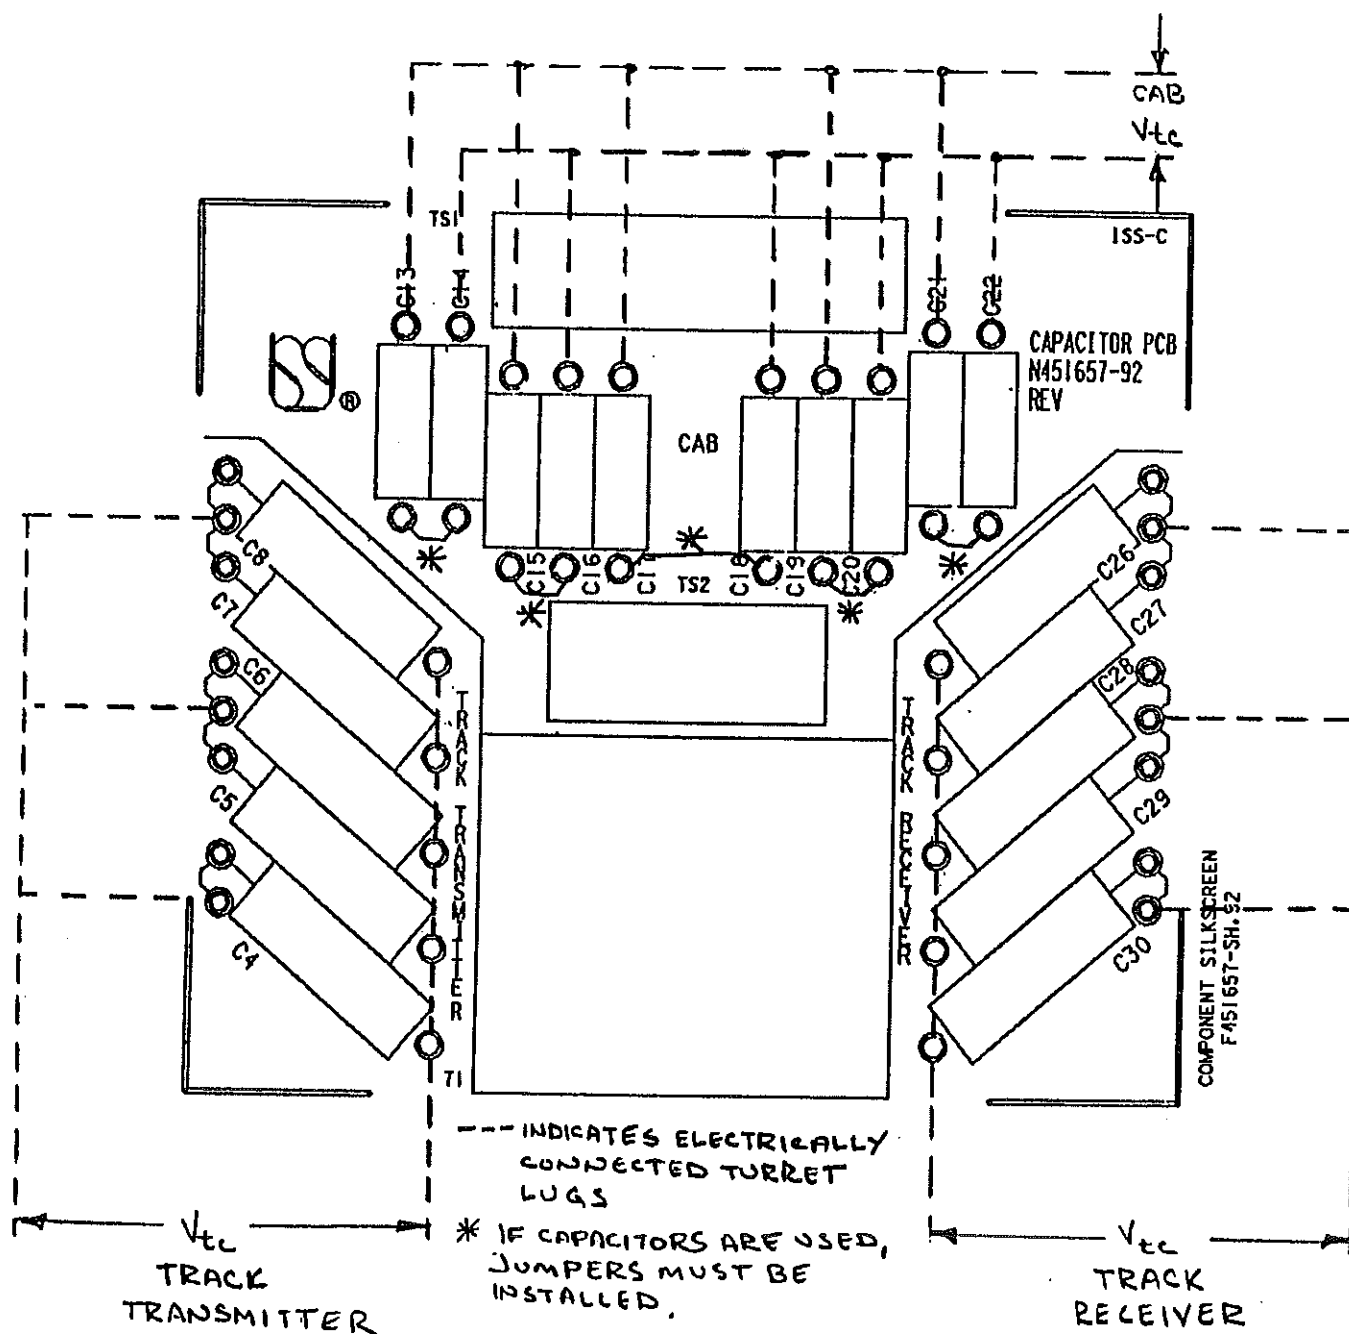

Figure 4-4. Capacitor PCB Tuning (Current Revision Layout)
Also see Figure 4-4
6. Using temporary jumpers, add or remove capacitance until a voltage peak is found for V_{tc} in Figure 4-4 or 4-5 (the scope or digital voltmeter reading). Capacitor decade boxes are recommended for this.